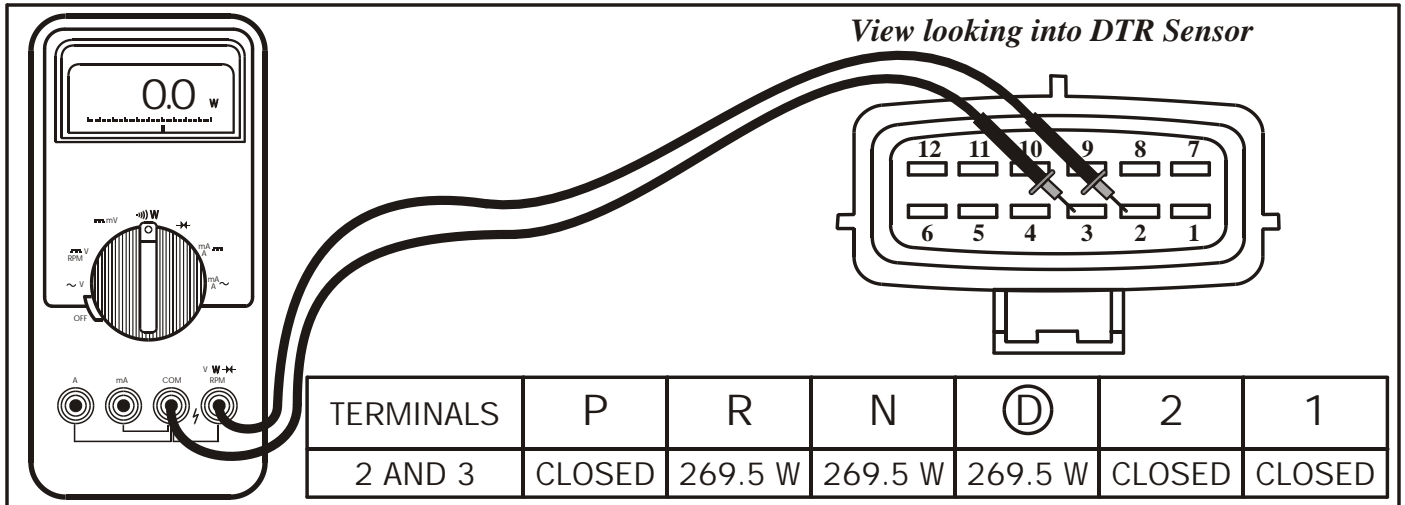

Figure 4
- (1) Testing the transmission range 3A switch, and the 270W internal resistor is done across pins 2 and 3 of the DTR sensor, and must be checked in each selector position to determine the switch and resistor integrity. Refer to Figure 4.